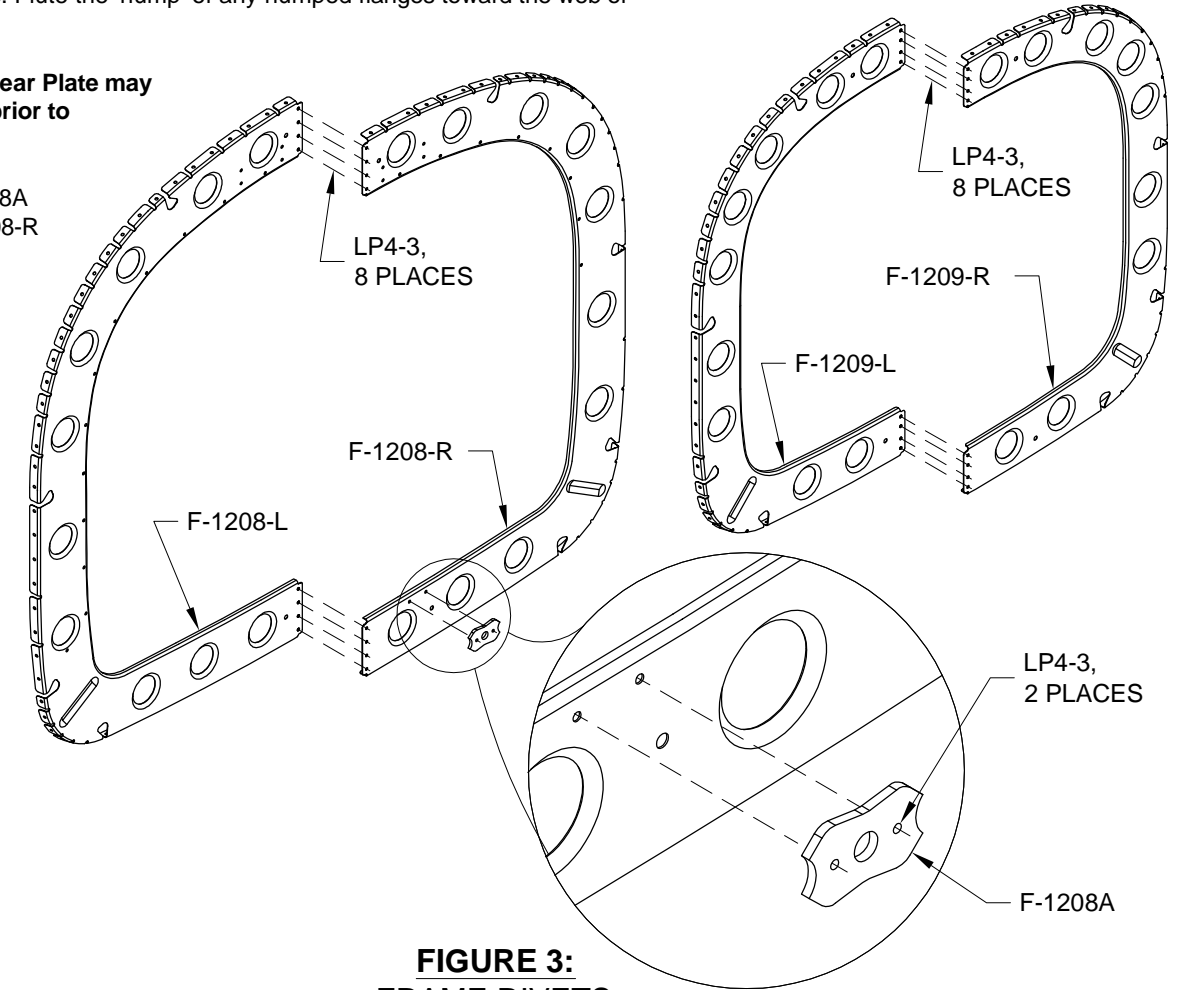

FIGURE 3:
Step 5: Rivet the F-1208A Wear Plate to the F-1208-R Fuselage Frame as shown in Figure 3.
Step 6: Cleco, then rivet the F-1208-L to the F-1208-R. Cleco, then rivet the F-1209-L to F-1209-R as shown, using rivets called out in Figure 3.